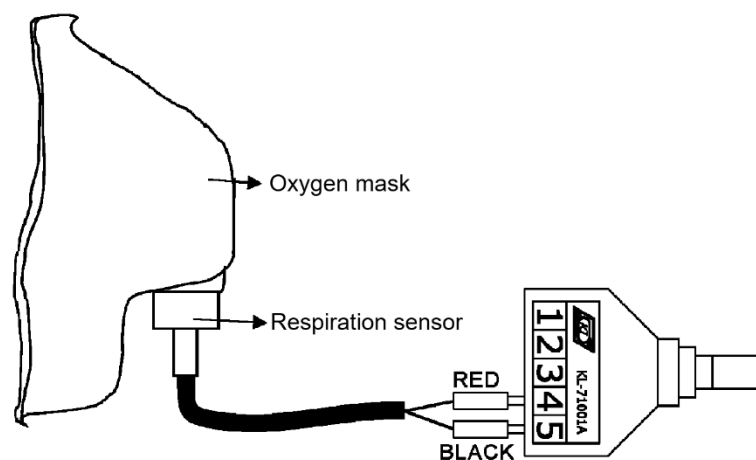

Figure 7.8 Oxygen mask ~ HUB connection
IN4 and the black terminal to IN5 as shown in Figure 7.8.
- (1) Connect terminals J1 and J2 of the KL-73007 to the MODULE INPUT and MODULE OUTPUT terminals of the KL-71001, respectively. Use the connectors to connect terminals 1, 2, 3, 4. Connect the Vo1 output terminal to the CH1 channel of the oscilloscope, and the Vo2 output terminal to the CH2 channel of the oscilloscope.
- (2) Select the KL-73007 module using the INPUT SELECT button on the KL-71001 (see LCD display). The IN4 and IN5 LEDs on the KL-71001 panel should light up. This indicates that the input signal should be connected to this input. Therefore, connect the respiration sensor KL-73007A to this input terminal. The red terminal should be connected to IN4 and the black terminal to IN5 as shown in Figure 7.8.
- (3) Set the SW switch to CAL and adjust the Z2 SVR value so that the A1 output voltage is zero.
- (4) Connect the 9-pin RS232 cable to COM Port on the computer.
- (5) Run the KL-700 Biomedical Measurement System software. For instructions and installation information, see Chapter 0.
- (6) When the system is loaded, the image below will appear on the screen.
- (7) Press the 'Acqu' button to display the image below. The KL-73007 Respiratory Ventilation recording screen will appear.
- (8) Adjust the VOLT/DIV and TIME/DIV settings so that the signal waveform appears in the center of the graph area.
- (9) Connect the oxygen mask to the respiratory sensor and turn the SW switch to MEAS. Start measuring respiratory activity.
- (10) Keep the respiratory rate at a normal level and record the respiratory curve and trigger waveform on computer.